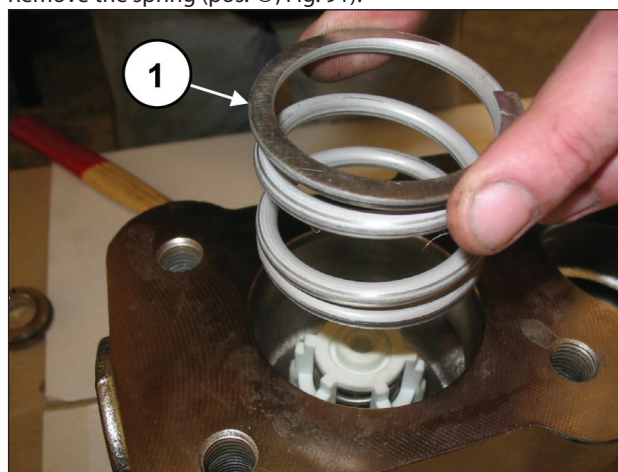

Fig. 91
Remove the spring (pos. ①, Fig. 91).